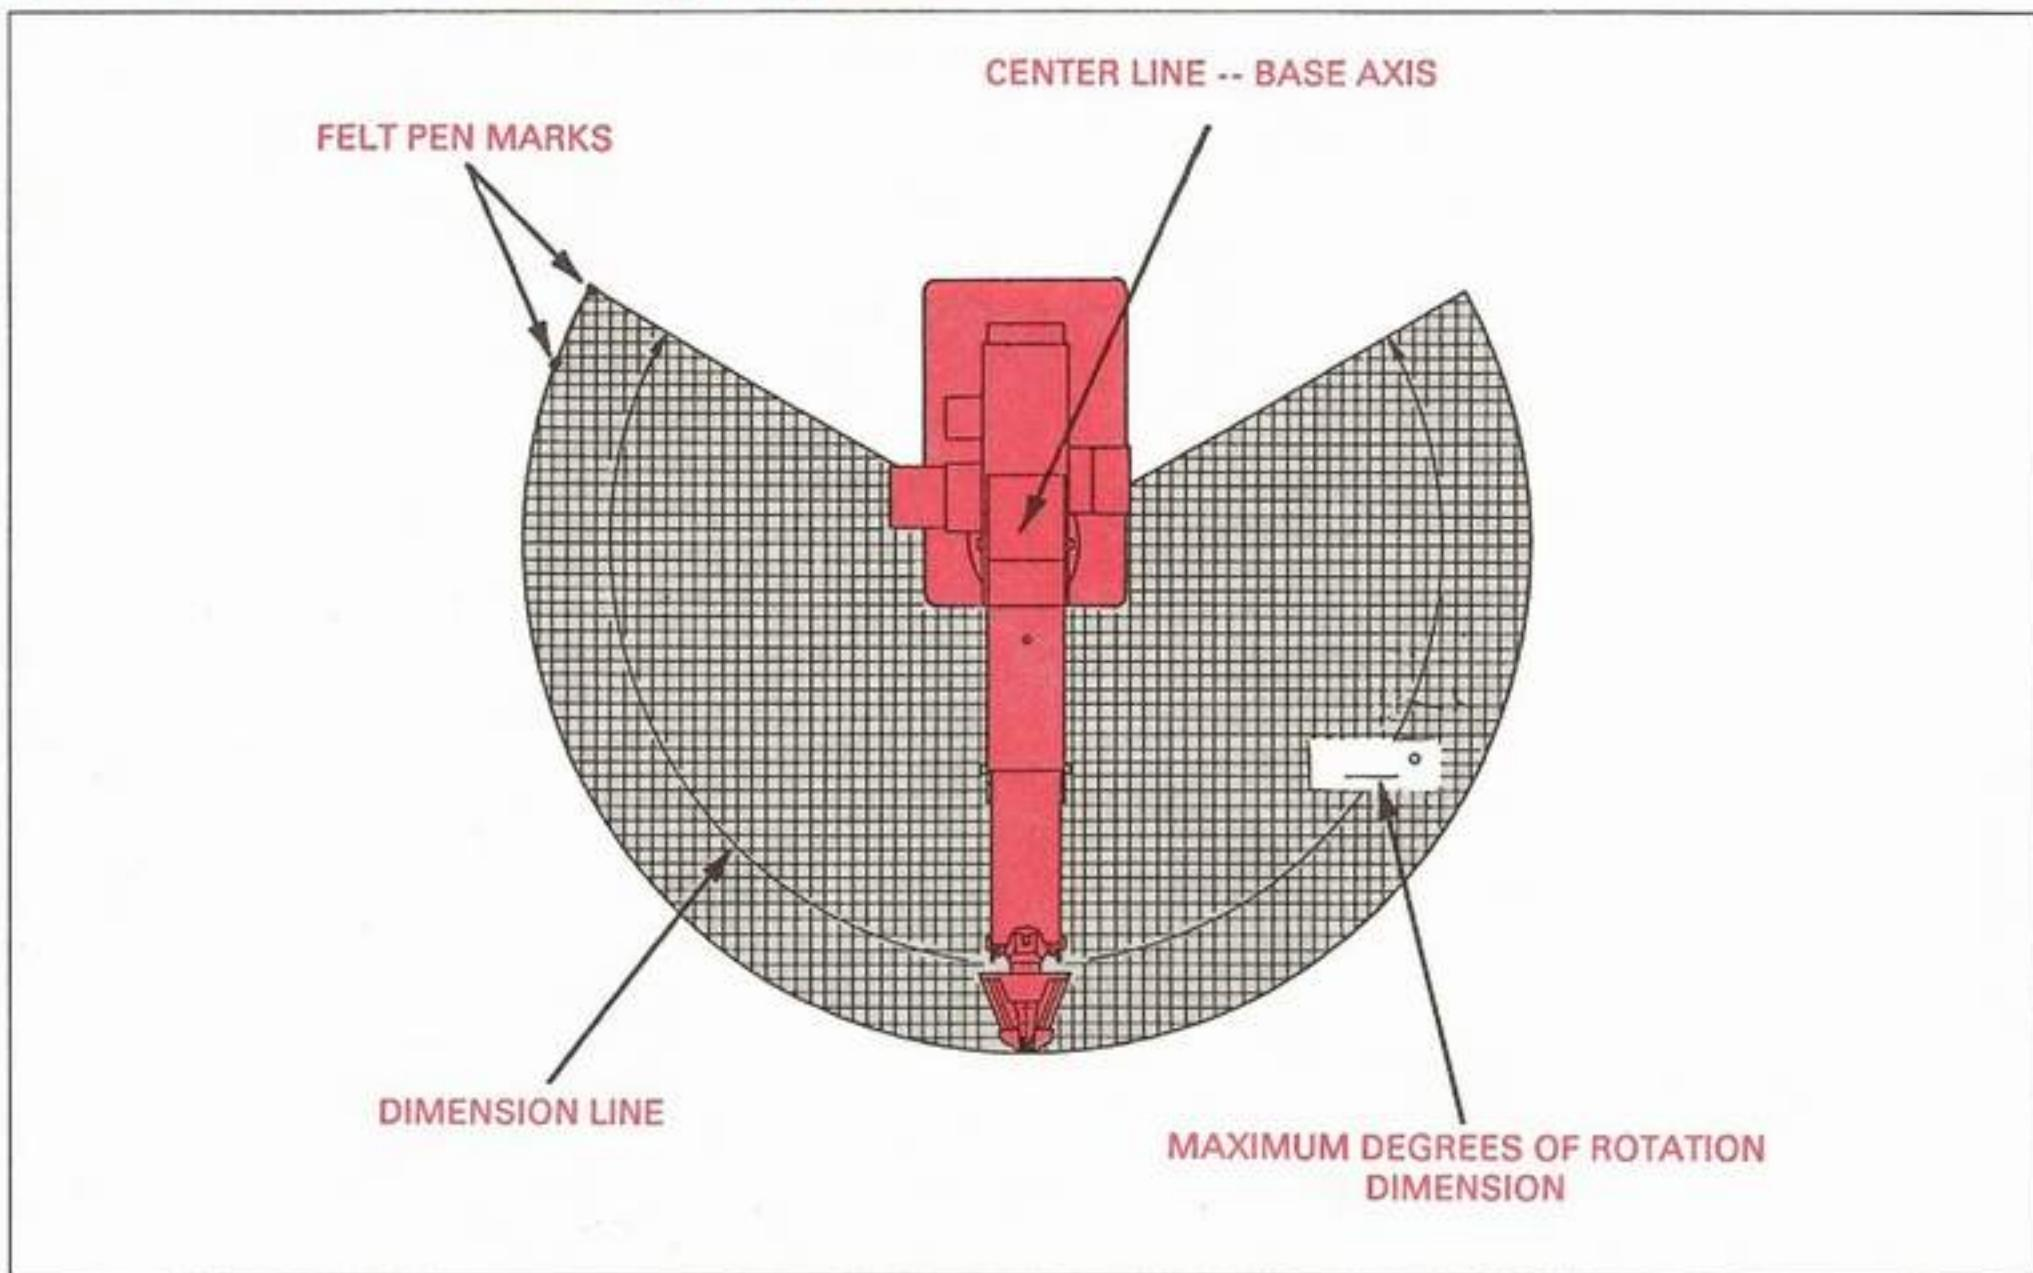

Fig. 78: Horizontal Envelope Nomenclature
- m. Using the felt-tip pen, draw a smooth arc through the marks you made on the grid sheet in Step i. Refer to Fig. 78.
- n. Next, draw a line connecting each end of the arc to the center line of the base axis (marked "BASE AXIS" on the grid sheet). Refer again to Fig. 78.
- q. Draw a dimension line on the chart indicating the rotational swing, and then add the degrees-of-rotation measurement from Step o. Refer to the example in Fig. 78.
- r. Using a soft pencil, lightly shade-in the work envelope, again referring to Fig. 78.